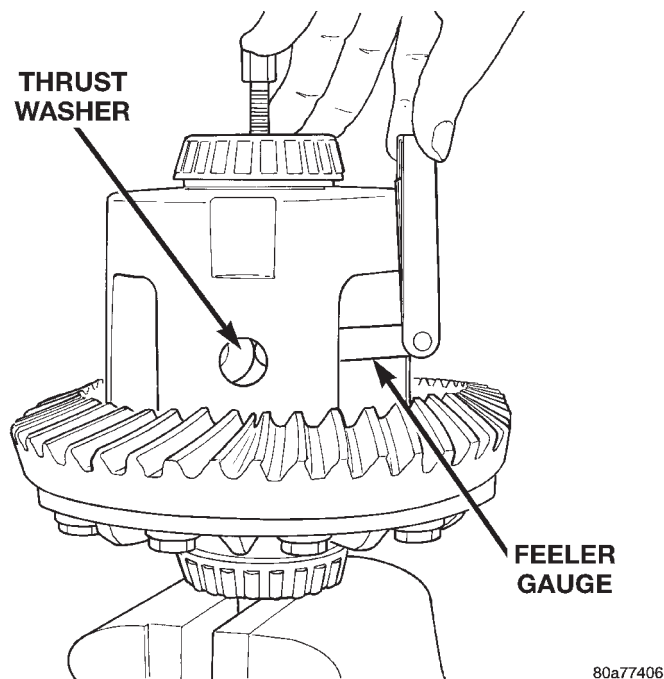

Fig. 46 Remove Pinion Gear Thrust Washer
(10) Using an appropriate size feeler gauge, remove thrust washers from behind the pinion gears (Fig. 46).